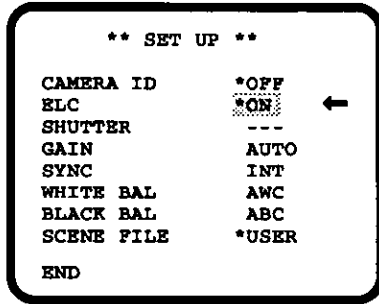

Fig.29.
- Confirm that 'ELC *ON' is selected by the 'ELC' mode menu and '---' is displayed on the 'SHUTTER' mode as shown in Fig.29.